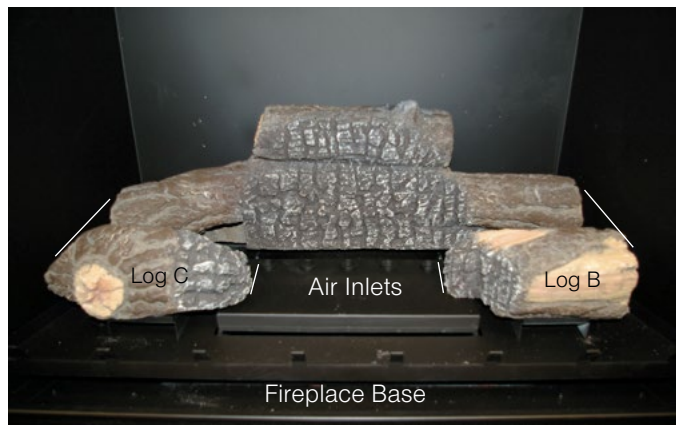

Figure 9b. Left front Log, (Log C) and Right front Log, (Log B).
Step 3. Place the bottom Right log (Log B) and bottom Left Log, (Log C) as shown in **figure 9b**.